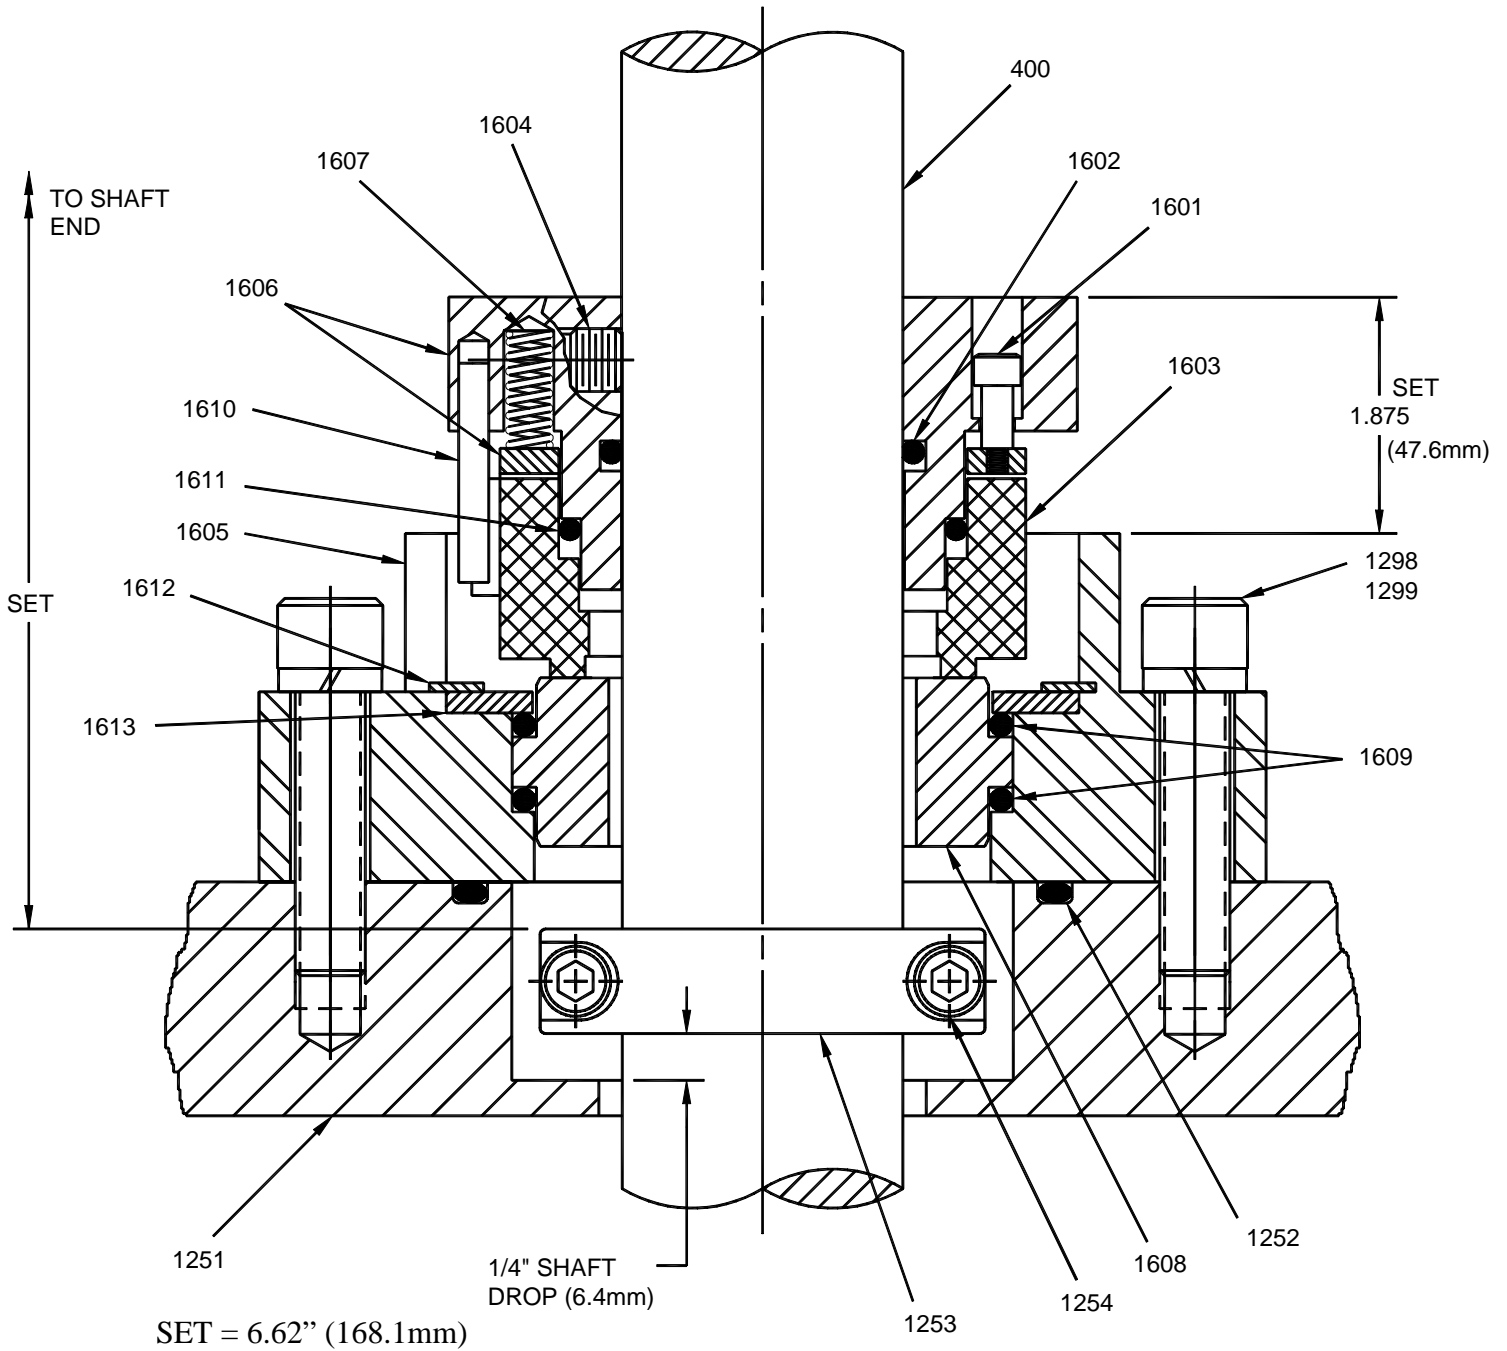

Figure 8: Model DTNC Seal, Flowserve VRA
7. Slide drive collar rotary seal ring [1603] assembly down shaft, and set seal spring gap dimension at 1.875" (47.6 mm). Refer to *Figure 8, page 20*. Evenly tighten all cup point setscrews [1604].